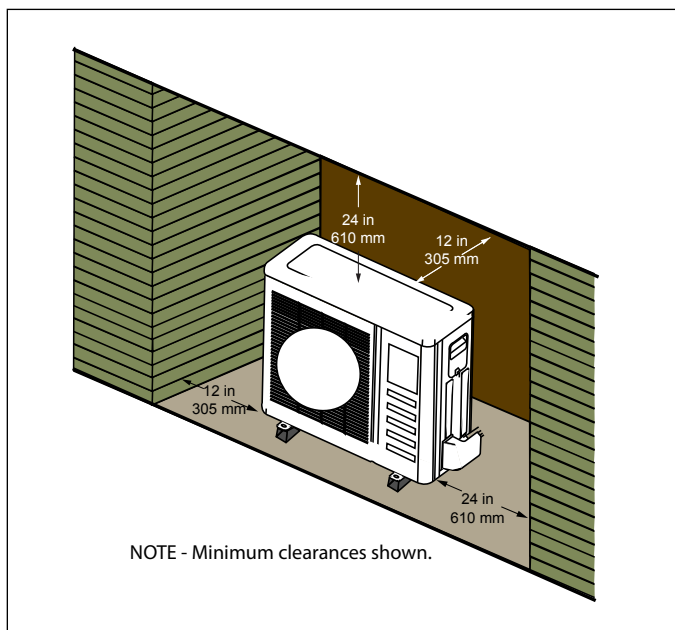

Figure 13. Unit installed in Alcove
- Outdoor unit can be installed in a alcove or under a roof overhang as illustrated in “Figure 13. Unit installed in Alcove”.